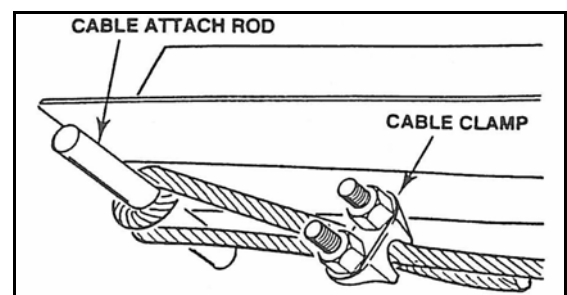

Figure 3.16
5. Wrap cable 1-1/2 times around the cable attach rod and secure with three cable clamps. Position cable clamps as shown in Figure 3.16 and 3.17. Tighten cable clamps securely.